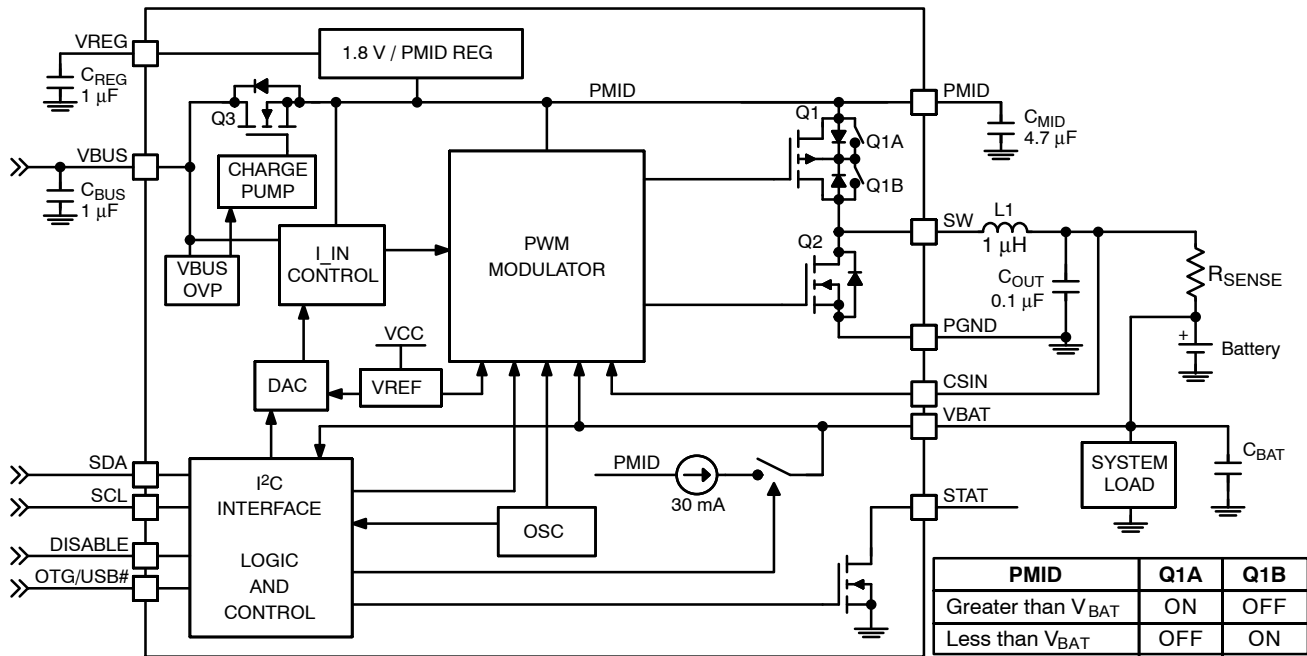

Figure 2. IC and System Block Diagram
2. A 6.3 V rating is sufficient for CMID because PMID is protected from over-voltage surges on VBUS by Q3 (Figure 2).